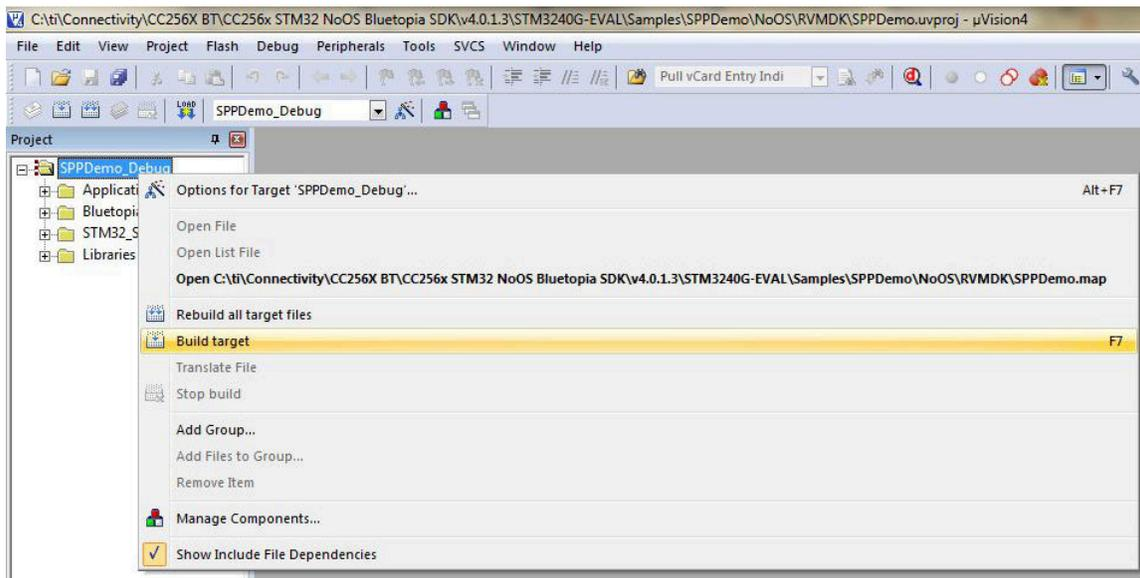

Figure 7-6. Building Target
9. Select *Build target* to build the code. (See Figure 7-6.)